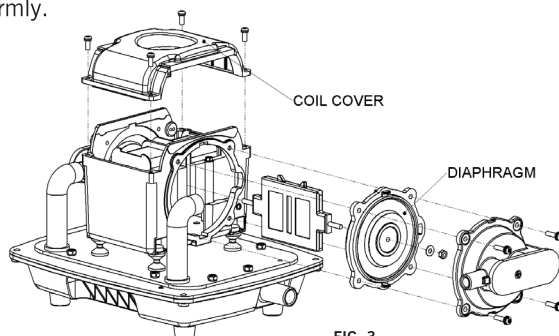

FIG. 3
2. Loosen the four screws around the coil cover, and take the cover off. *(As shown in figure 3)*